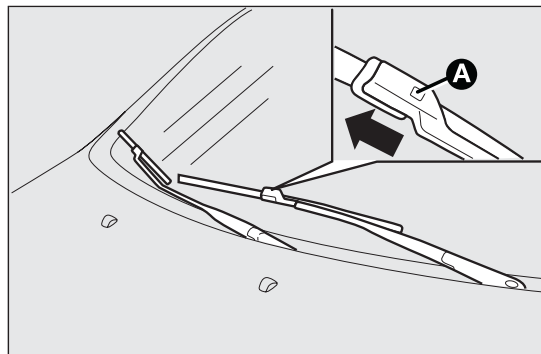

fig. 212
- press tab A fig. 212 of the coupling spring and remove the blade to be replaced from the arm;